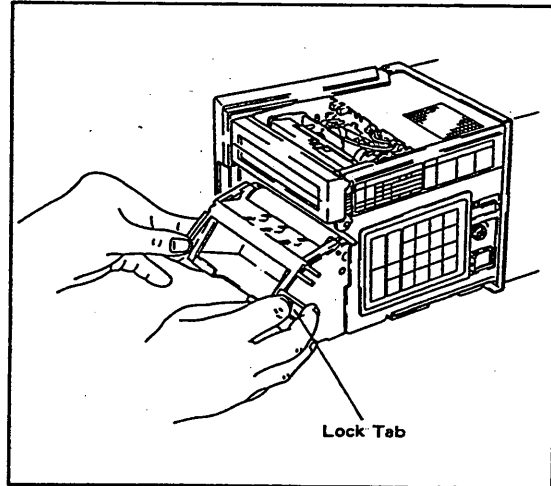

Figure 5-19.
- (6) Insert new batteries. Be sure to insert the new batteries with the polarity (+ and -) the same as indicated inside the cartridge case. (See Figure 5-19.) Rotate the batteries a few times to insure contact between batteries and terminals after inserting batteries.